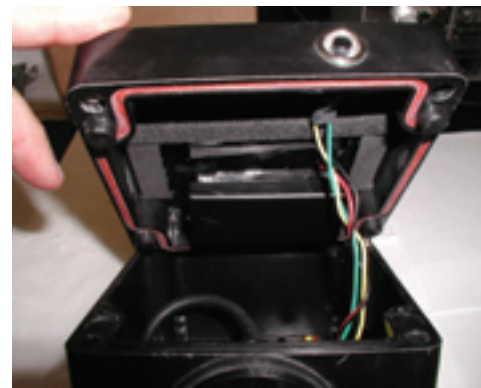

Figure 5. Proper position of lid and wiring
- Verify TEST button is facing down (see Figure 5).